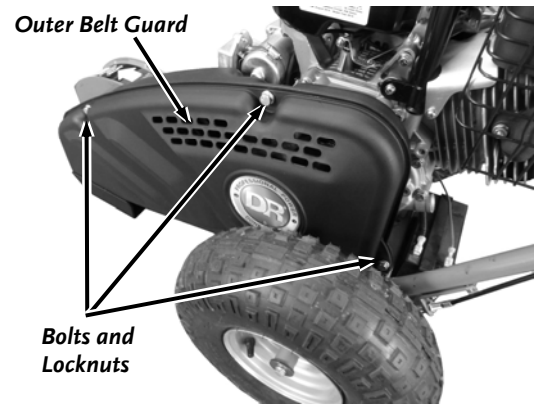

Figure 34
1. Remove the three Bolts and Locknuts from the Belt Guards with two 1/2" Wrenches and remove the outer Belt Guard (**Figure 34**).